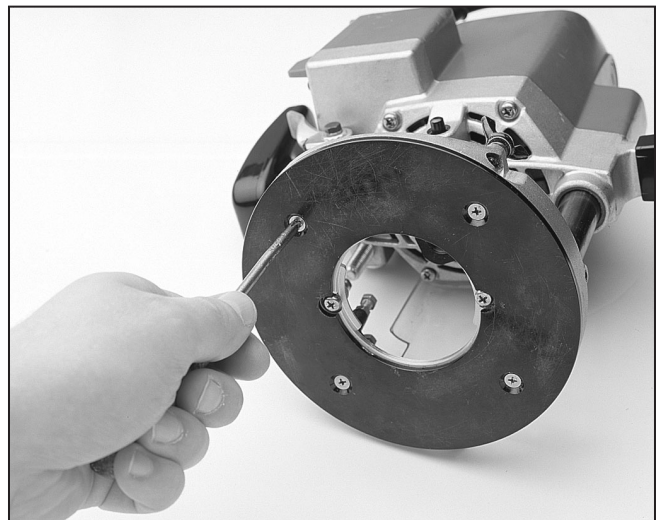

Figure 11. Removing sub-base from router.
Step 1 - Remove the existing router sub-base that is attached to your router base. **Figure 11.**